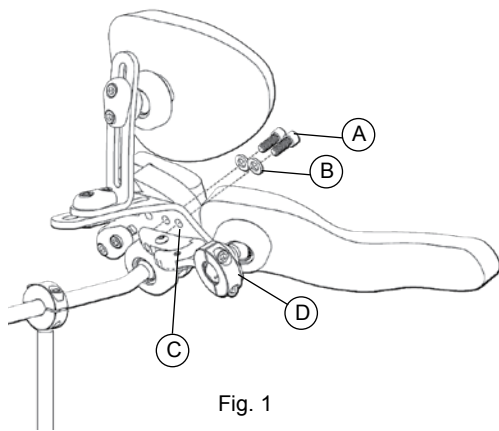

Fig. 1
1. Attach swingaway lateral bracket(s) (Fig. 1, D) to S.O.F.T. base plate assembly (Fig. 1, C) using bolts (Fig. 1, A) and washers (Fig. 1, B). Tighten bolts securely.